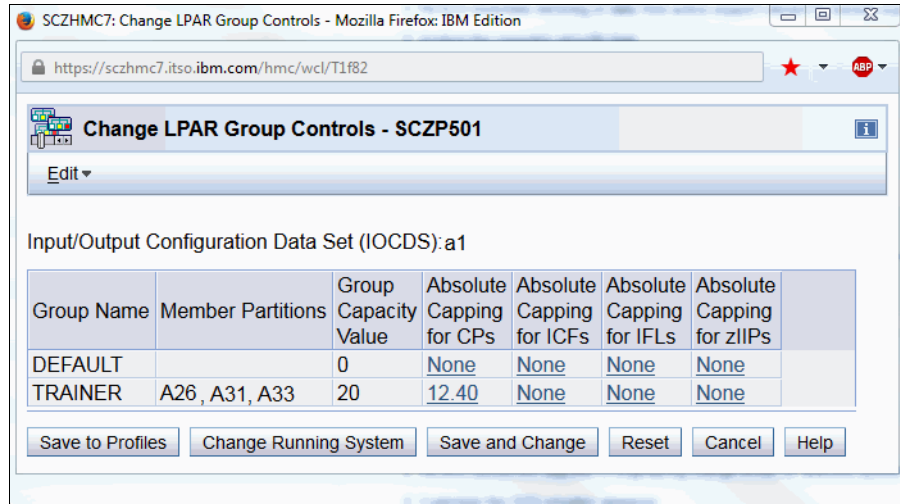

Figure 11-13 Change LPAR Group Controls - Group absolute capping
- Use Change LPAR Group Controls (same windows that are used for software group defined capacity) as shown in Figure 11-13 (snapshot on a z13 server).